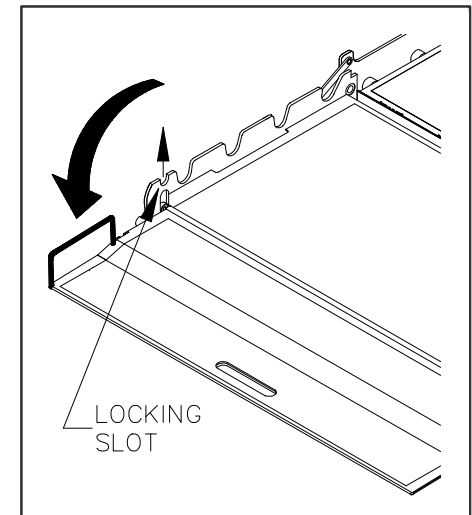

FIGURE 3-6: LOWER OUTER ROLLSTOP
- 5) Refer to **Figure 3-6**. Grasp rollstop handle and lift outer rollstop out of locking slots (about an inch). Lower to ground.